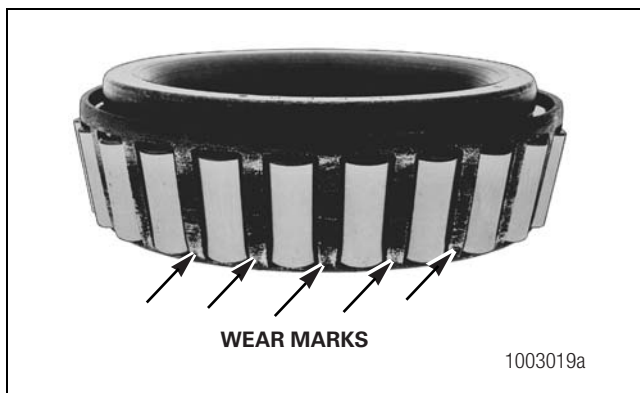

Figure 6.3
- There are bright wear marks on the outer surface of the roller cage. Figure 6.3.